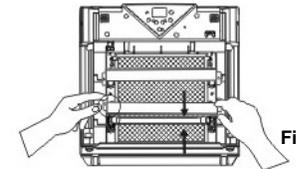

Fig. 19
10. Replace protective shade and screw in the screws. (Fig. 19)